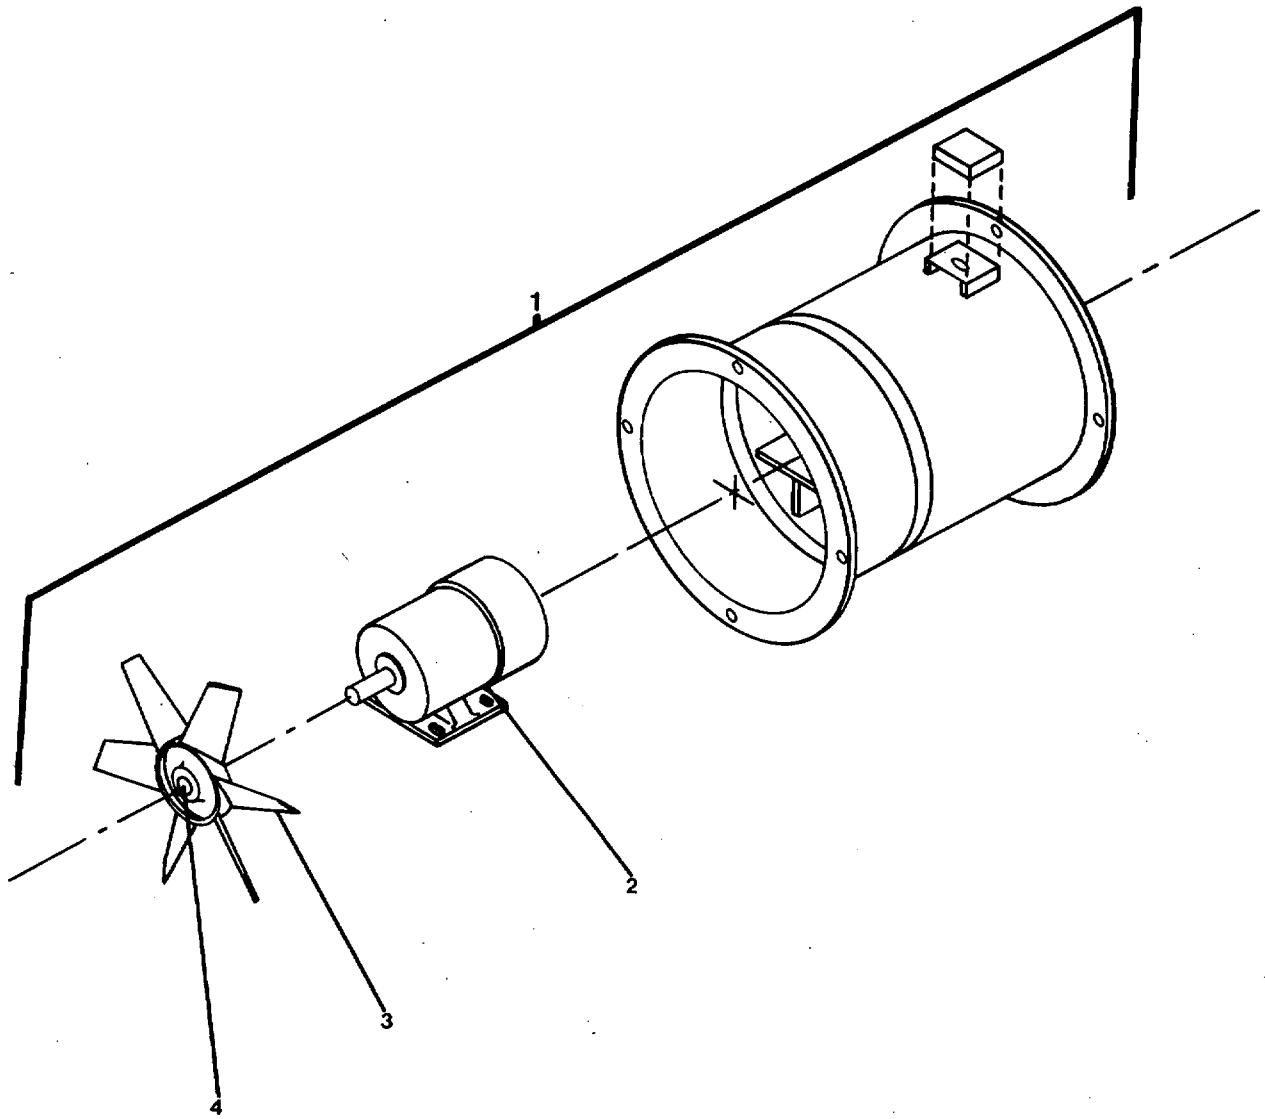

Figure 3-14. Ventilating Fan (Exhaust Fan #3).
- (c) Install fan sheave (11) onto straight shaft (10).
- (d) Install gasket strip (6) and bearing cover (7) with bolts and washers (8).
- (e) Install impeller (3) and finger ring (4) (REPAIR, step d., above).
- d. Install electric motor (2) (paragraph 2-28).
- e. Install ventilating fan and V-belt (12) (paragraph 2-27).
- (1) Turn electrical power ON.
- (2) Start and run fan to check operation.
- (3) Remove "Out of Service" tag from circuit.
**3-23. Repair Fan, Ventilating (Exhaust Fan #3). (FIGURE 3-14)**